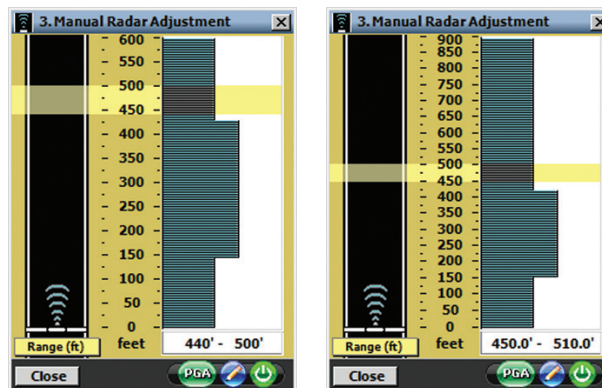

Figure 6.9 – Editing Ranges for Advance (left) and Advance Extended Range (right)
- 2 Click and drag to select the section of the histogram (range bins) that needs to be adjusted (see Figure 6.9).